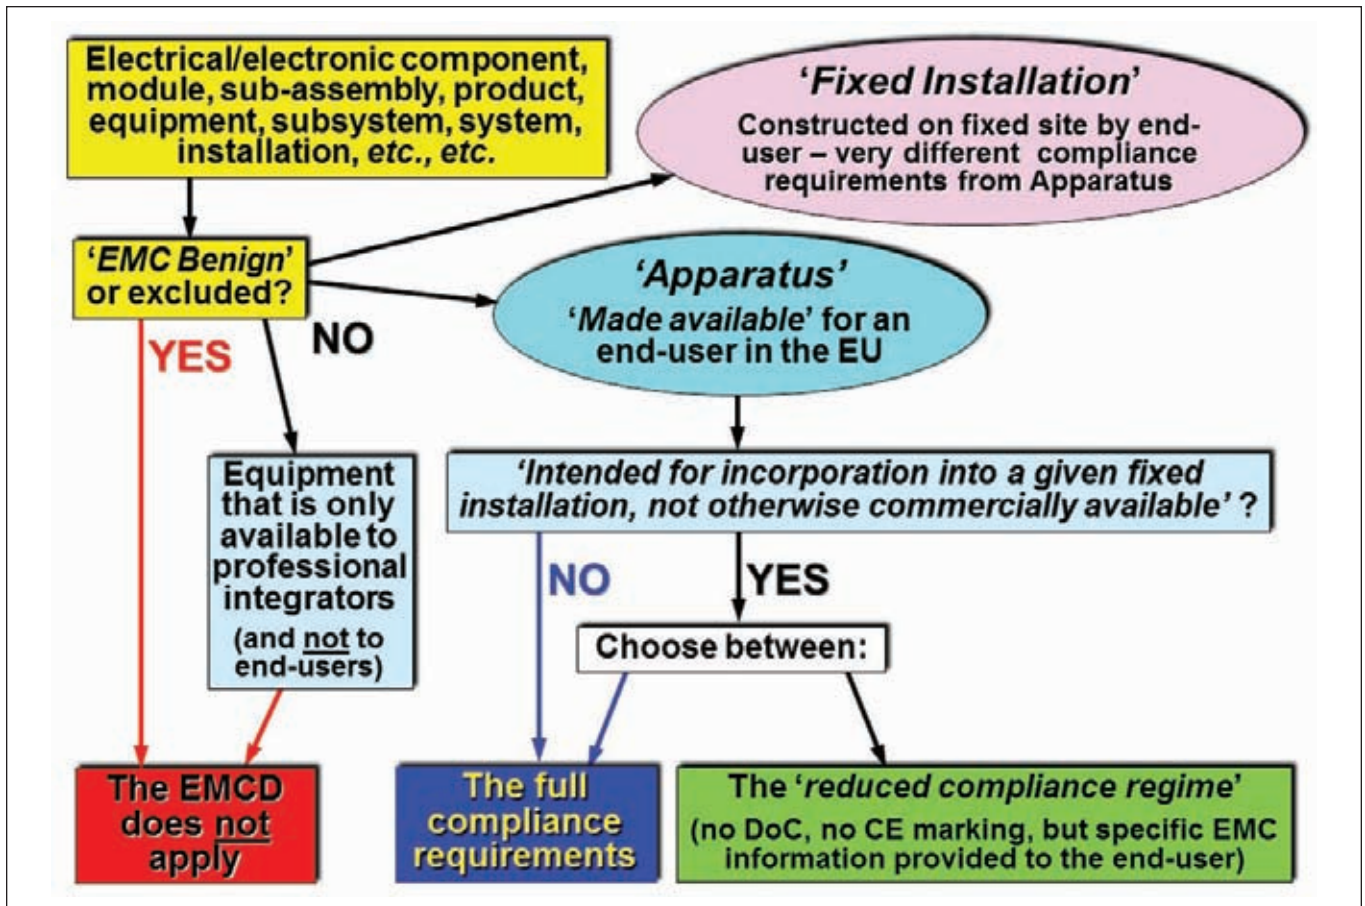

Figure 1: Applying the EMC Directive
commonplace terms. Figure 1 shows that apparatus is treated very differently from fixed installations.
- i. Mistakenly assuming that every item of equipment that carries a CE marking must perforce comply with the EMCD. This article describes three ways in which this assumption can be wrong, all of which are shown in Figure 1: